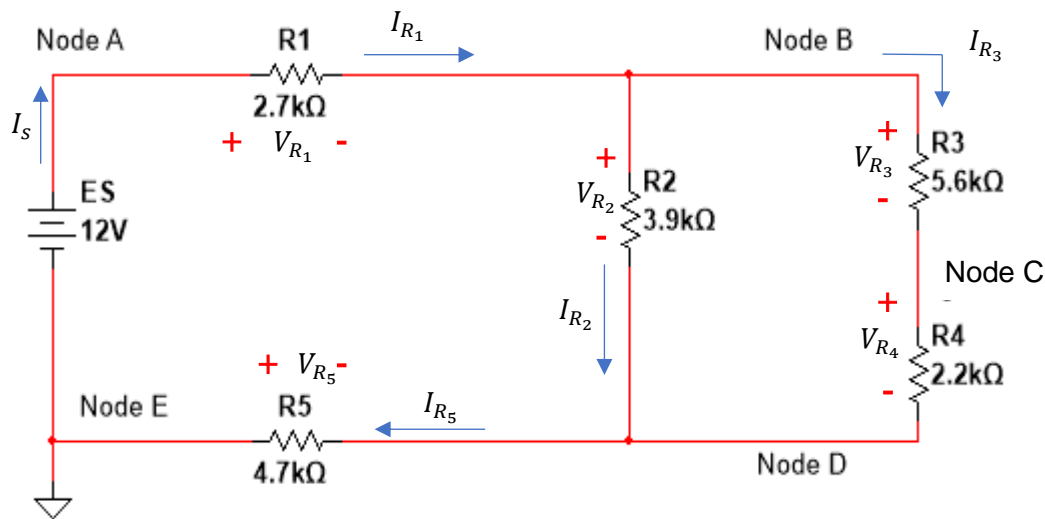

Figure 1. Bread Board Circuit for Current Measurements
2. Construct the circuit shown in **Figure 1.**, below: